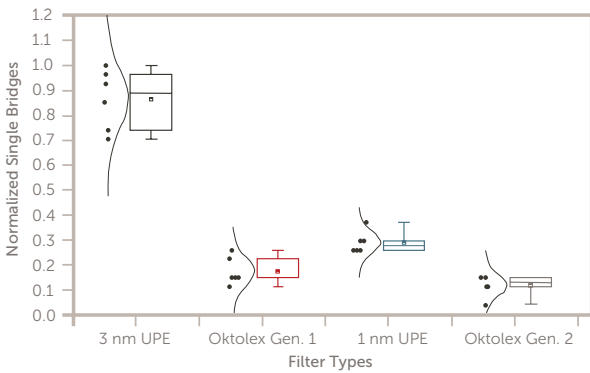

Figure 4. Normalized single bridge count/wafer, arranged by experimental group.
While residues are clearly triggered by membrane pore size, micro-bridges are not. The normalized count of single bridge is reported in Figure 4. In the case of native membranes, the amount of micro-bridges is triggered by pore size shrinking. However, the Oktolex Gen. 2 filter performs similarly to native and Oktolex Gen. 1.
The benefit of the GAA structure on electrostatics is obvious when comparing to finFETs: excellent drain induced barrier lowering (DIBL) and subthreshold slope saturation (SSSAT) values are measured down to the smallest patterned gates measured (LG = 40nm). The improved electrostatics for the LG = 40 nm devices are reflected in the ID-VG characteristics, where only the GAA devices can reach the high performance (HP) off-state current target of 100 nA/μm (Fig. 4).
Figure 4. Short-channel (LG = 40 nm) drain-source and bulk current versus gate voltage for Ge GAA and Ge fin devices from.⁴ All currents are normalized toward the effective channel width (30 nm for Ge GAA and 60 nm for Ge fin). Continuous lines at -0.5 V VDD and broken lines at -50 mV VDD.